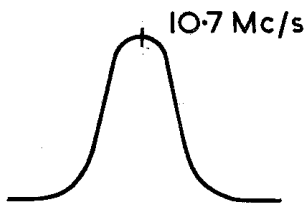

FIG. 2
2. Transfer diode probe to test point 'B' This is a boot tag attached to R17 (.47 M Ω) the other end of which is connected to V3 pin 7, and adjust L20 for curve to peak at 10.7 Mc/s as in Fig.2.